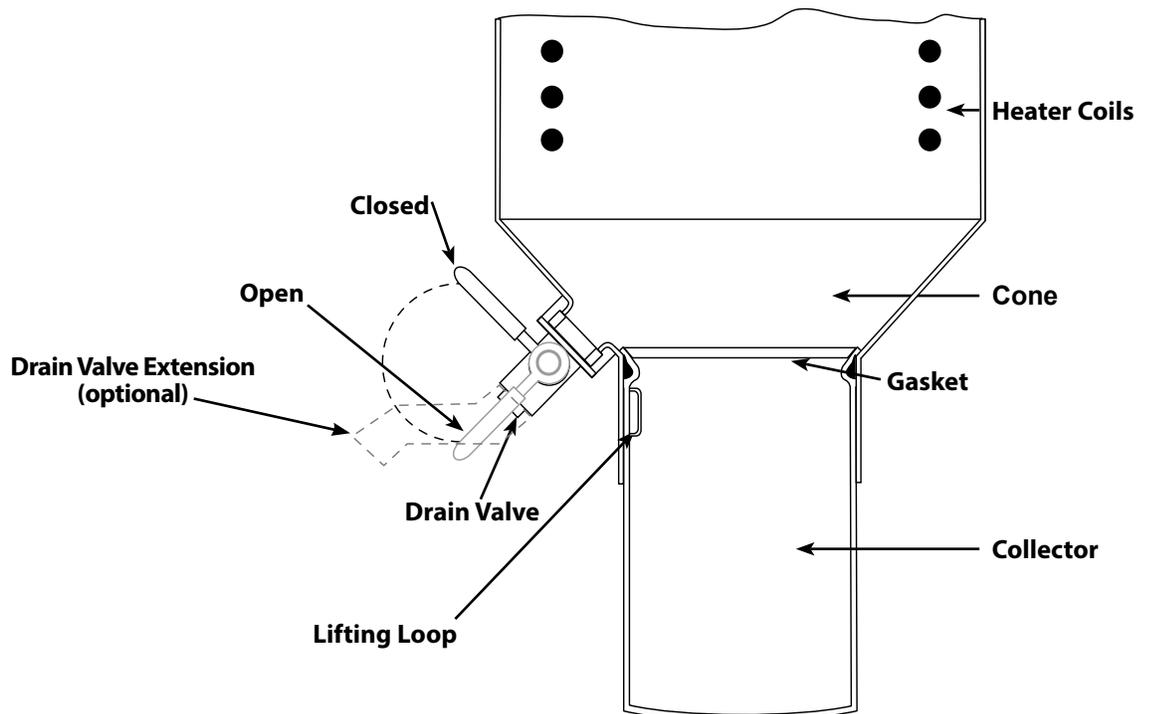

FIGURE 3 - Some features have been omitted to show greater detail.
4. **Check Collector and Drain Valve** - Make sure collector with gasket is seated and drain valve is closed (handle back – see Figure 3). Always place lifting loop in front. This will allow the collector to be removed with ease.